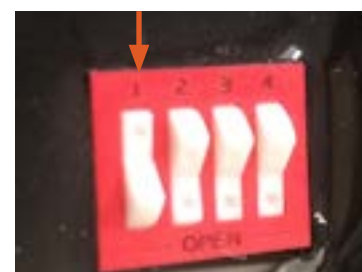

Figure 2. Turn on DIP switch 1
5. **Toggle DIP switch #1 to the ON position (Figure 2).** This is required for the RsEK to enter setup mode.